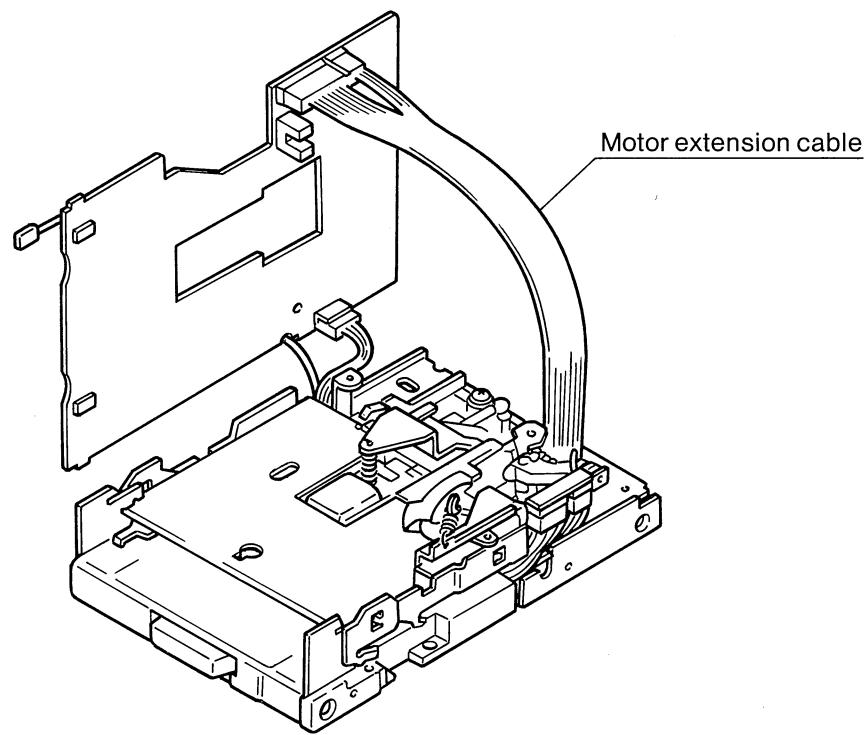

Figure 4-5. Adjusting Motor Extension Cable Installation Diagram
- (2) Attach the motor extension cable and turn the power on (see Figure 4-5).
- (3) Check the sensor current draw: Install an ammeter between TPB-2 and GND, and check that the current flow is at least 100 microamperes and that the dark current is no more than 2 microamperes.
- (4) Measure the AMP output (test pin TPA-1) with an oscilloscope (use the CE disk, see section 4.5.9, Track calibration).
- (5) Set the DIRECTION SELECT to either HIGH or LOW. Enter the STEP signal until a signal for track 40 is output.
- (6) After detecting a signal from track 40, set DIRECTION SELECT to HIGH. Enter the STEP signal 40 times to move the head carriage to track 00.
- (7) Measure the test pin (TPB-3) on the PCB assembly with an oscilloscope.
- (8) By means of the DIRECTION SELECT and STEP signal, calibrate the track 00 sensor assembly so that the test pin (TPB-3) output at the position (range A) indicated in the figure below is LOW.
- (9) Tighten screw ⁵⁵ after the calibration is completed.